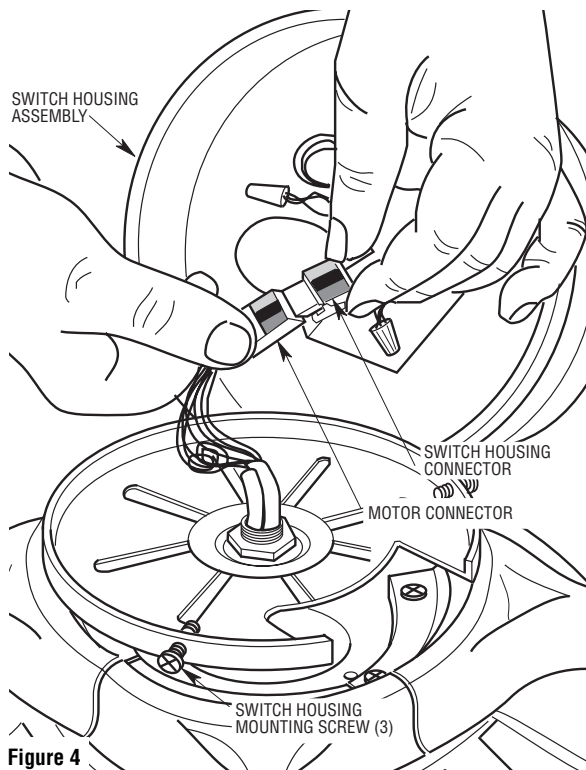

Figure 4
- 5. Remove and retain the three switch housing mounting screws (Figure 4) from the switch housing plate. Engage the connector of the switch housing assembly with the motor connector (Figure 4). The two connectors are keyed and color-coded and must be mated correctly (color-to-color) before they can be engaged. Make sure the connector latch closes properly.